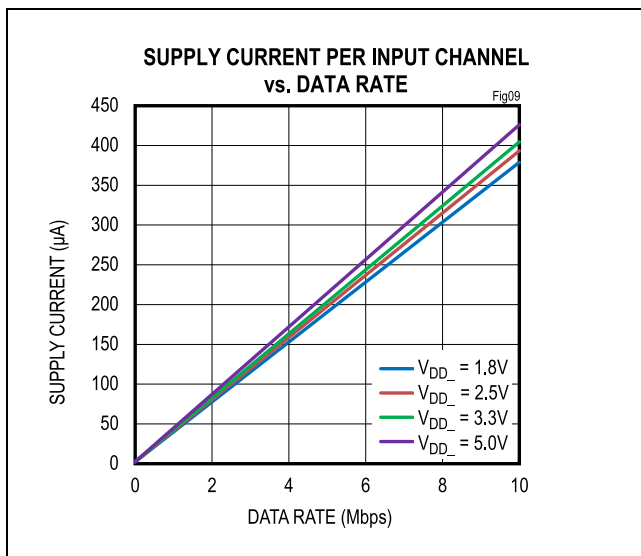
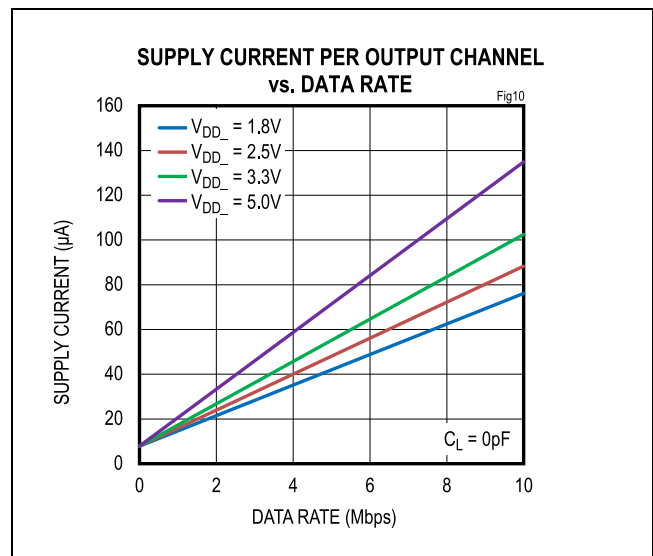

Figure 9. Supply Current per Input Channel (Estimated)
Figure 10. Supply Current per Output Channel (Estimated)
The required current for a given supply (V_{DDA} or V_{ddb}) can be estimated by summing the current required for each channel. The supply current for a channel depends on whether the channel is an input or an output, the channel's data rate, and the capacitive or resistive load if it is an output. The typical current for an input or output at any data rate can be estimated from the graphs in Figure 9 and Figure 10. Note that the data in Figure 9 and Figure 10 are extrapolated from the supply current measurements in a typical operating condition.
The total current for a single channel is the sum of the no load current (shown in Figure 9 and Figure 10), which is a function of voltage and data rate, and the load current, which depends on the type of load. Current into a capacitive load is a function of the load capacitance, the switching frequency, and the supply voltage.
- Channel 1 is an output channel operating at 2.5V and 2Mbps, consuming 23.93µA, estimated from Figure 10.
- Channel 2 is an input channel operating at 2.5V and 10Mbps, consuming 393.35µA, estimated from Figure 9.
- Channel 1 is an input channel operating at 3.3V and 2Mbps, consuming 82.92µA, estimated from Figure 9.
- Channel 2 is an output channel operating at 3.3V and 10Mbps, consuming 102.49µA, estimated from Figure 10.